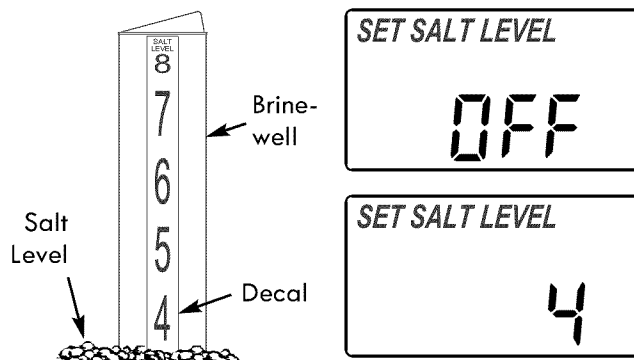

Figure 24
2. The yellow salt level decal, on the brine well inside the tank, has numbers from 0 to 8 (see Fig. 24). Observe the highest number the leveled salt is at, or closest to.